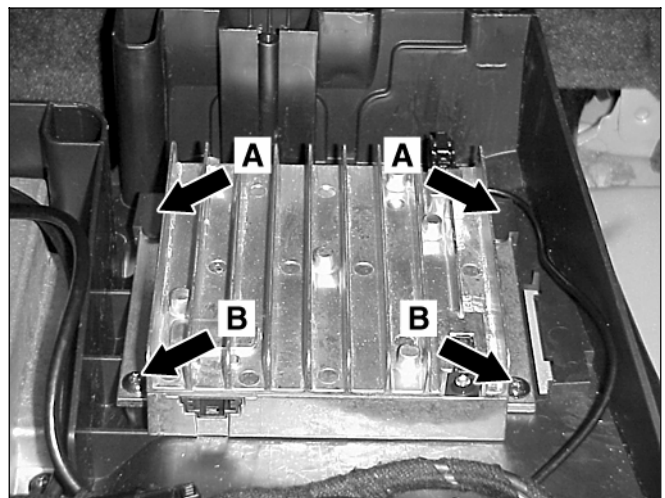

Figure 5
- a. Slide the compensator mounting-lip under the carrier plate bracket-tabs (A, Figure 5).
- b. Secure the opposite end of the compensator with two T20 Torx screws (B, Figure 5).
Note: The compensator side with the jack labeled "ANTENNA" must face the vehicle front and the side labeled "PORTABLE" with the power connector receptacle next to it must face the vehicle rear (Figure 5).